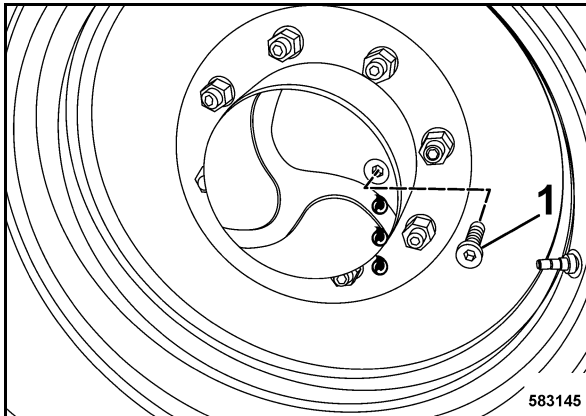

Fig. 168
- Move the drive wheel, until the plug (Fig. 168) is in horizontal position on the housing.